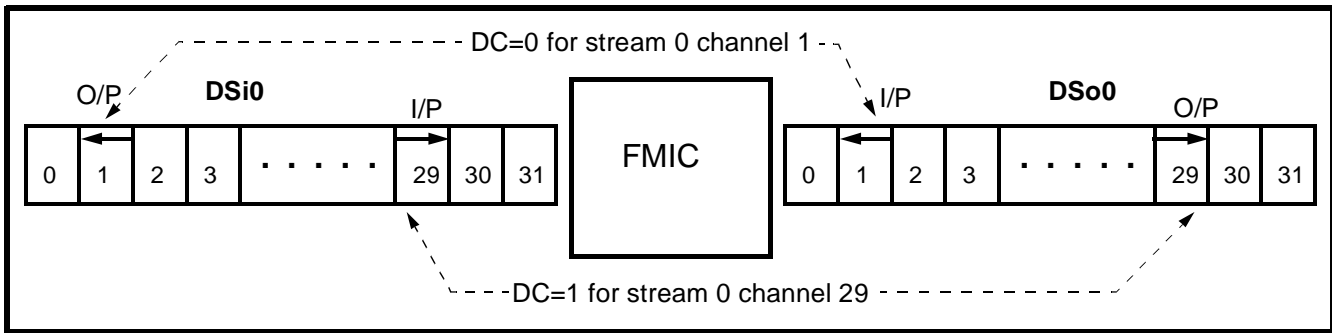

Figure 3 - Per-channel Direction Control
The direction control (DC) bit in connection memory high determines the direction of the associated DSi-DSo channel pair. If the DSi or DSo channel is programmed as an input, the corresponding DSo or DSi channel will automatically be configured as an output. Thus, there are always 256 MVIP input and 256 MVIP output channels or 256 full duplex MVIP channels on the MVIP bus. Figure 3 - “Per channel direction control” illustrates the use of DC bit for direction control on stream 0 channel 1 and channel 29. When DC bit is set, DSo channel is output from the FMIC and DSi is input to the FMIC. When DC bit is cleared, the channel directions are reversed.